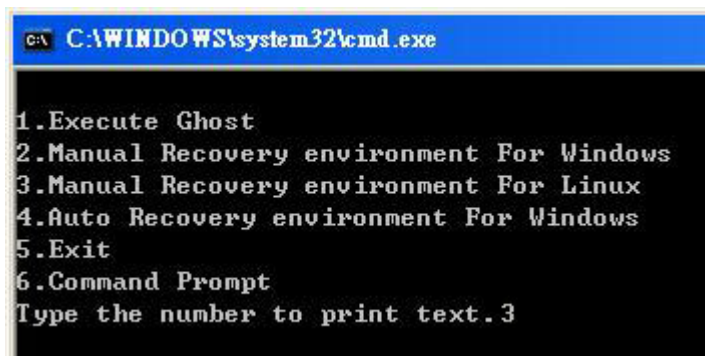

Figure B-31: Manual Recovery Environment for Linux
Step 4: Build the recovery partition. Press any key to boot from the recovery CD. It will take a while to launch the recovery tool. Please be patient. When the recovery tool setup menu appears, type <3> and press <Enter> (**Figure B-31**). The Symantec Ghost window appears and starts configuring the system to build a